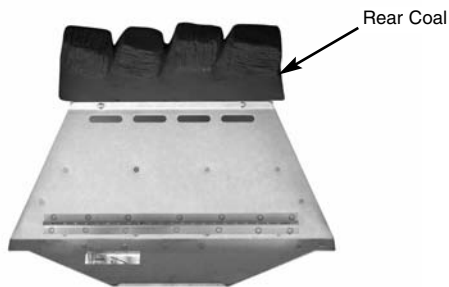

Fig. 77
1. Place the rear coal on the rear coal retainer ledge in a central position (Fig. 77).